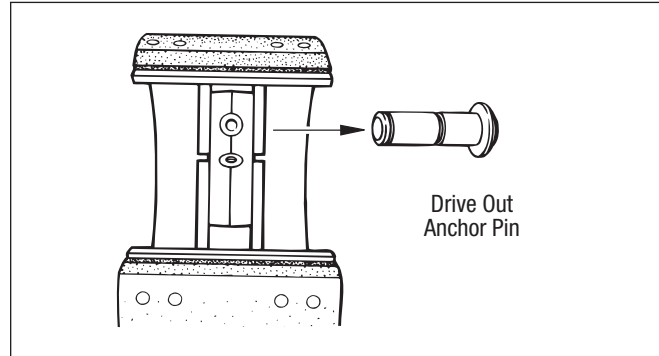

Figure 25 – Anchor Pin Removal
5. Remove the upper anchor pin with a brass drift or a mallet. Refer to Figure 25.